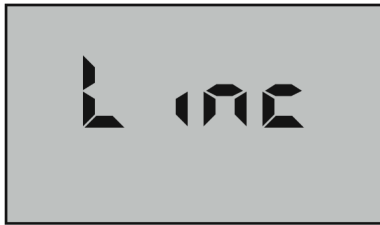

Figure 27
3. Press  arrow key until the menu “**Linc**” appears (see Figure 27).
2. Press  key until the menu “**Linc**” appears (see Figure 27).